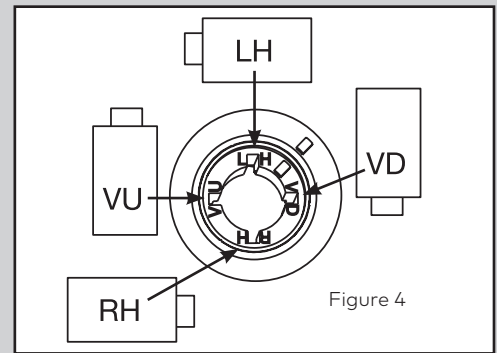

Figure 4
- Insert the spindle through the spindle hole of the door. With the bolt retracted, carefully thread (clockwise) the spindle into the drive cam until tight. Next, rotate (counterclockwise) at least 1/2 turn until the groove in the spindle is aligned with the correct spline position. (Refer to the Spline Key Position Chart - Figure 4).